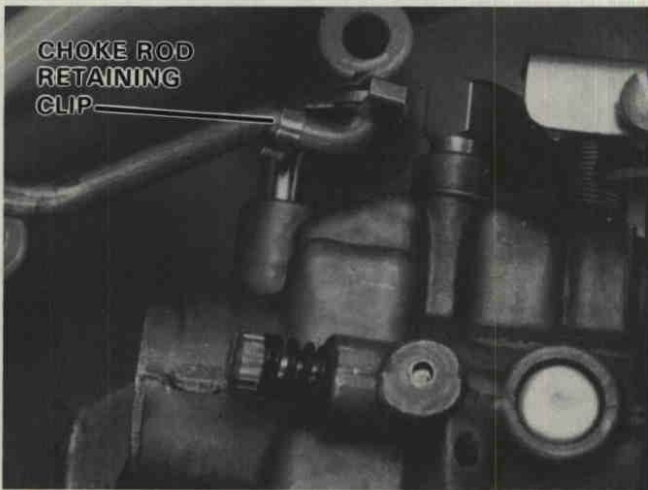

Figure 20. Removing Carburetor.
1. Remove choke rod retaining clip from choke rod. Disconnect choke rod, Figure 20.